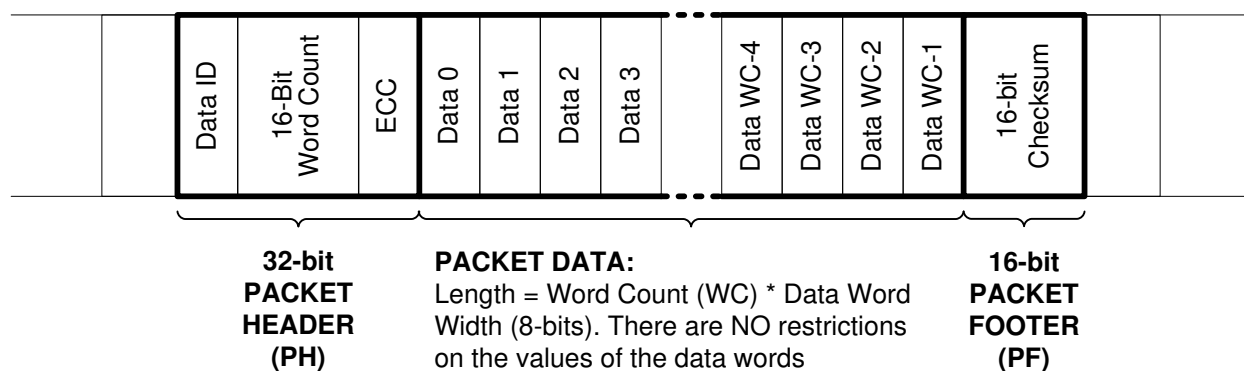

Figure 7-10. CSI-2 Long Packet Structure
A long packet consists of three elements: a 32-bit packet header (PH), an application-specific data payload with a variable number of 8-bit data words, and a 16-bit packet footer (PF). The packet header is further composed of three elements: an 8-bit data identifier, a 16-bit word count field, and an 8-bit ECC. The packet footer has one element, a 16-bit checksum. Figure 7-10 shows the structure of a long packet.